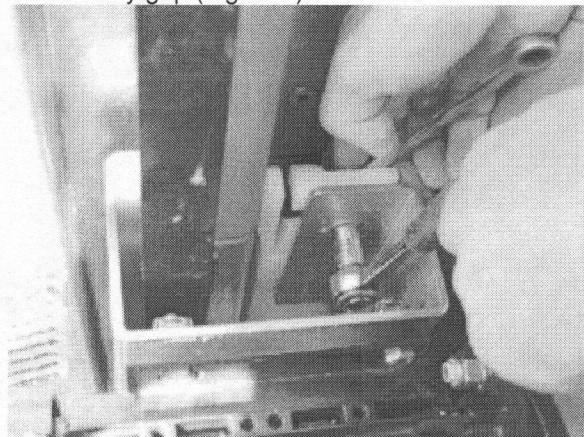

Fig. 076
8. Adjust sliding block (C) and tighten, so that both sliding blocks are close to the running rail without any gap (Fig. 076).